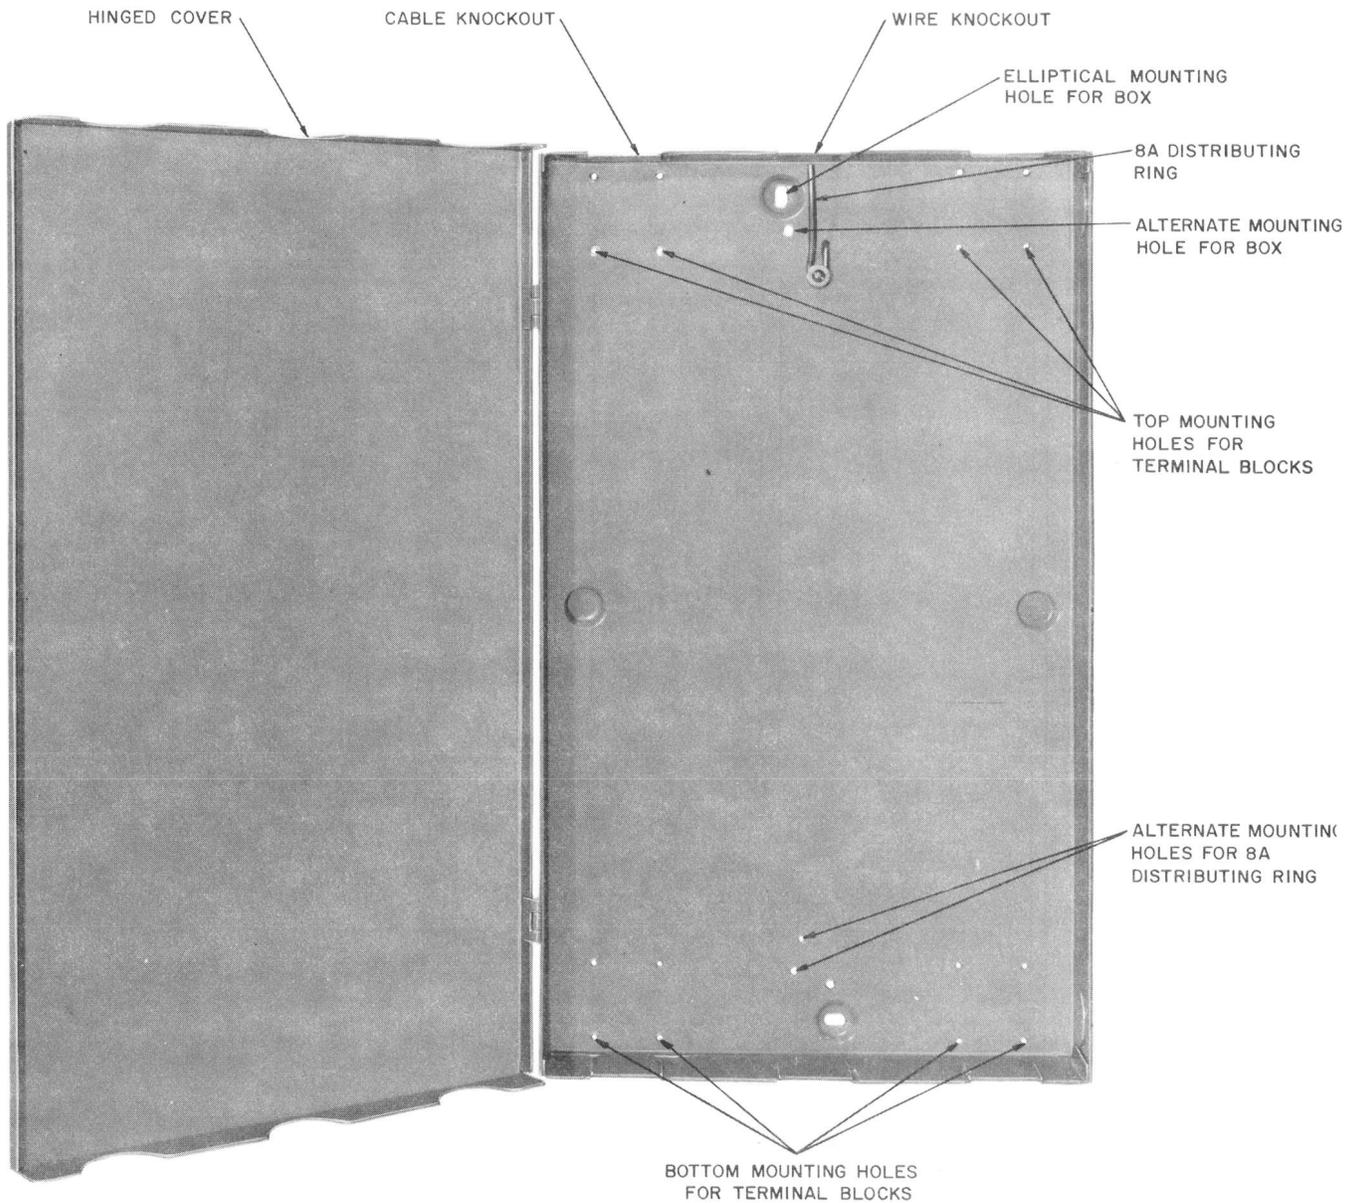

Fig. 2—GC-Type Cable Terminal Box
2.04 The GC-type cable terminal box is shown in Fig. 2. The dimensions are listed in Table B.